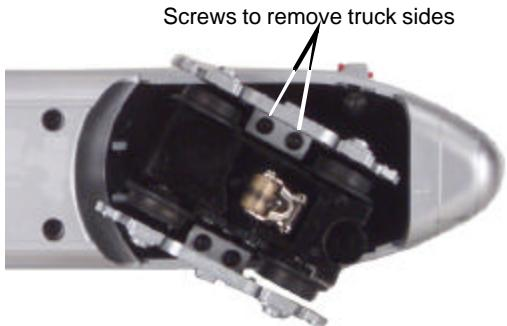

Figure 10b. Changing the traction tires on the rear truck
- Remove the truck sides by removing the screws shown in Fig 10b.